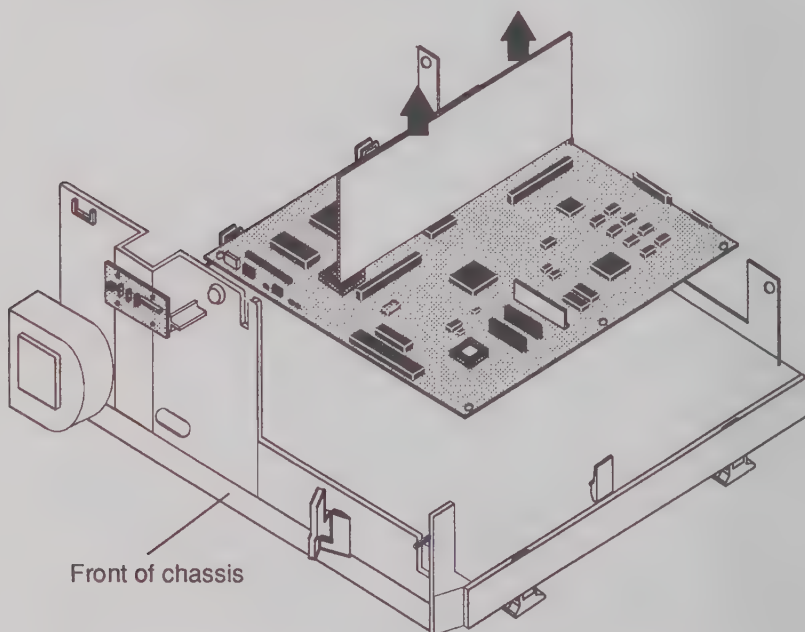

Figure 12 Removing the Riser Card from the System Board
7. Hold the riser card by its top edge and pull the board from the connector on the system board. See Figure 12. Place the riser card on an ESD mat.